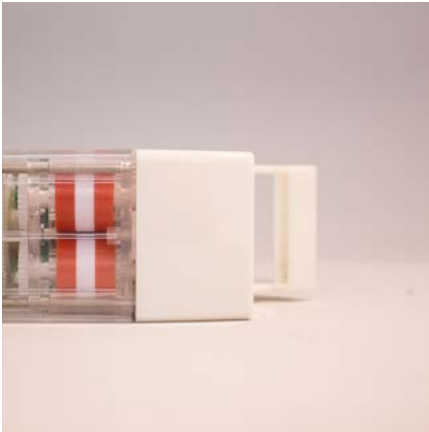
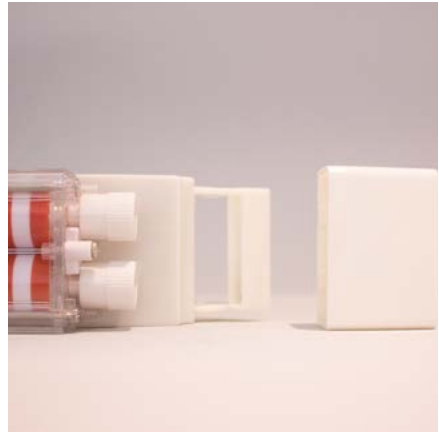
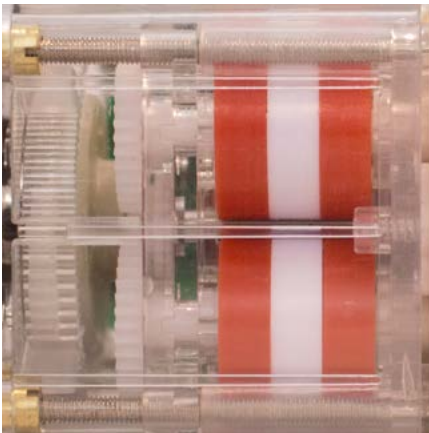

Figure 1
Figure 2
Figure 3
3. If the track requires a join, assemble this tightening the supplied track joiner insert in position, along with the overlap, before lifting the track into place. A second person is recommend to help should a join be used, to prevent damage to the track. To install the overlap, insert the overlap plate (see fig 1) into the belt joiners (see fig 2). Fix the overlap arm to the overlap plate using the screws provided (see fig 3).
13. To alter limit stops please do so as follows (refer to figs 1 – 4 also):
- a) Remove the cover on the bottom of the motor (fig 2).
- c) Operate the track and bring the overlap back to the mid-way position. At this point, by watching the discs (see fig 3), identify which limit switch controls the forward and backwards movements.